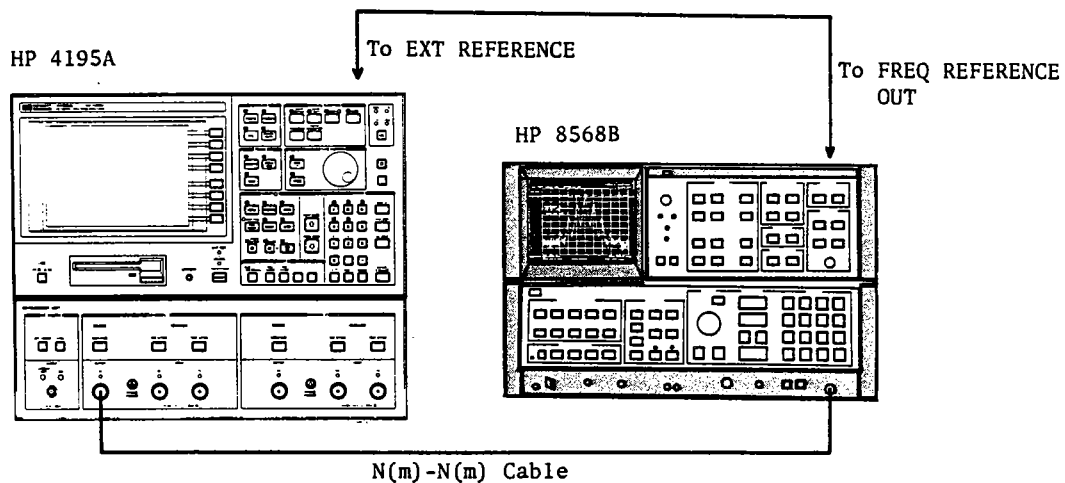

Figure 2-15. Phase Noise Test Setup
2. Connect the N(m)-N(m) Cable between HP 4195A OUTPUT S1 and the Spectrum Analyzer SIGNAL INPUT 2, and connect the BNC(m)-BNC(m) cable between HP 4195A's EXT REFERENCE connector and the spectrum analyzer's FREQUENCY REFERENCE OUTPUT connector as shown in Figure 2-15.